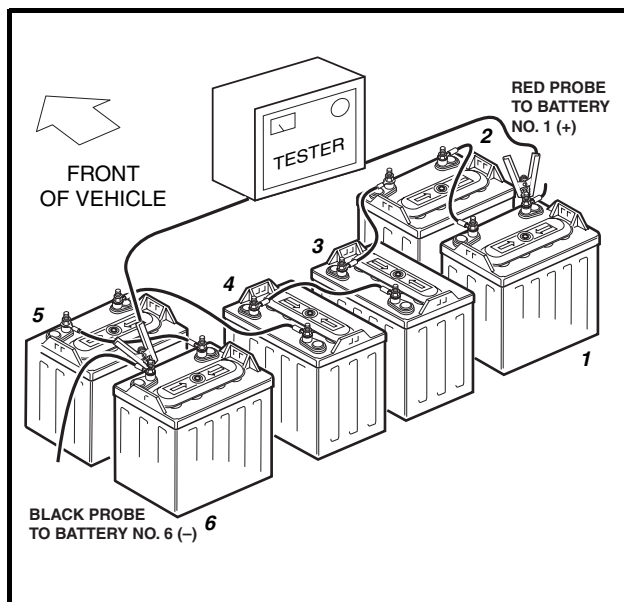

Figure 14-5 Battery Discharge Test
2. Connect the tester leads to the positive (+) post of battery no.1 and negative (-) post of battery no. 6 (Figure 14-5, Page 14-9).